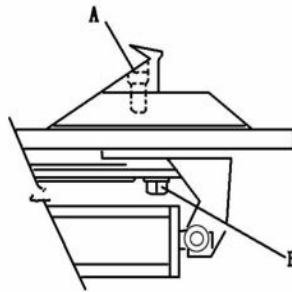

Fig.15.
- After the first 20 days of work, retighten the clamp tightening screws and screws on the turntable slides (Fig 15.)